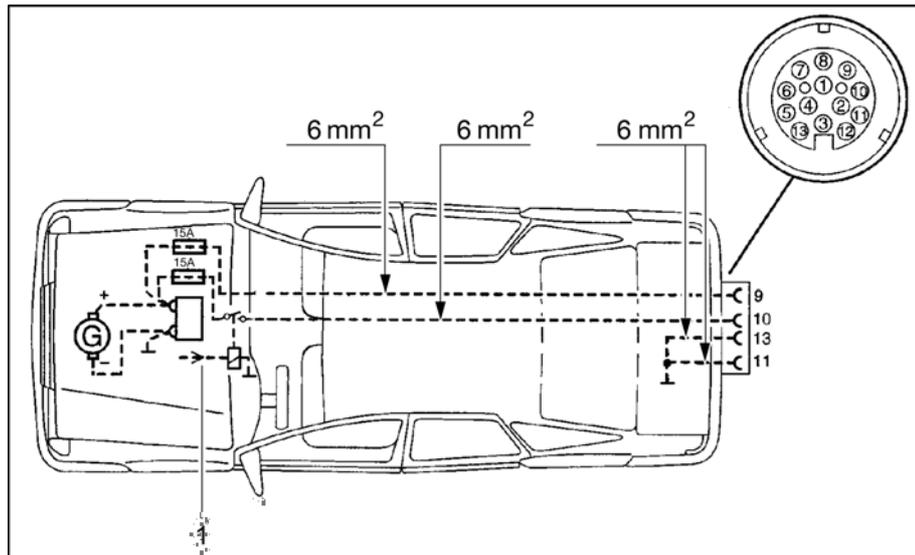

Fig. 105 Towing vehicle installation diagram
- ▷ The towing vehicle must be retrofitted with the corresponding cable cross sections and a relay for the power supply (controlled using the ignition) (see Fig. 105).